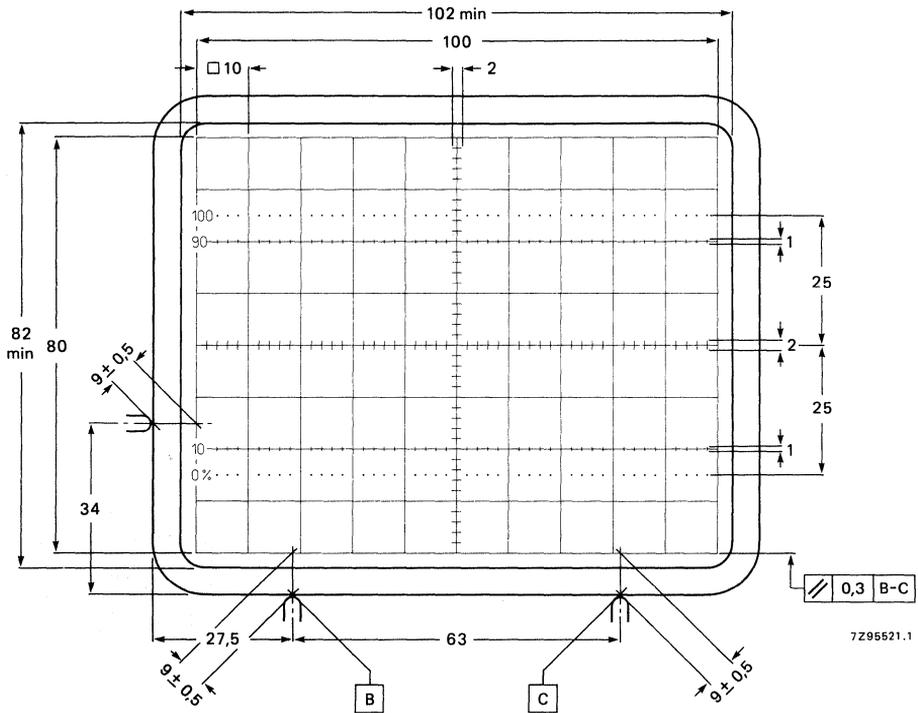

Fig. 5 Front view of tube with internal graticule, type 123. The faceplate reference points are used for aligning the graticule with the faceplate.
4. Reference points on faceplate for graticule alignment (see Fig. 5).
1. As the frit seal is visible through the faceplate, and not necessarily aligned with the internal graticule, application of an external passe-partout with open area of max. 102 mm x 82 mm is recommended. The internal graticule is aligned with the faceplate by using the faceplate reference points (see Fig. 5).
Internal graticule	type 123; see Fig. 5